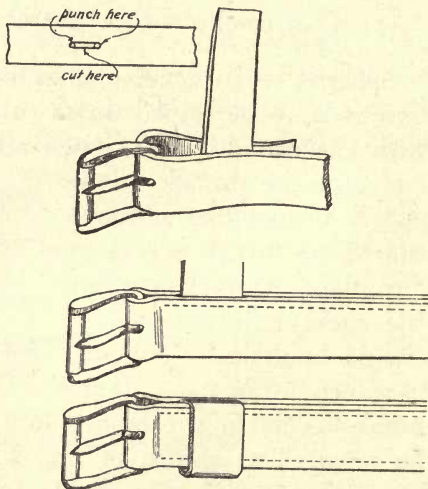

FIG. 238. — INSERTING A BUCKLE AND LOOP.
**Fastening a buckle and loop.** — In stitching on a buckle and loop, bevel one end of the strap with the round knife; then make the hole for the tongue of the buckle by punching two holes, as in Fig. 238, and cutting out the leather between with the points of the round knife. For the loop, cut a strap long enough to reach around two straps the size of the one used, and bevel both ends on the flesh side. Put the buckle in place and hold in the sewing horse with one end of the loop inserted in between the two edges to be stitched. Stitch as shown in the drawing.